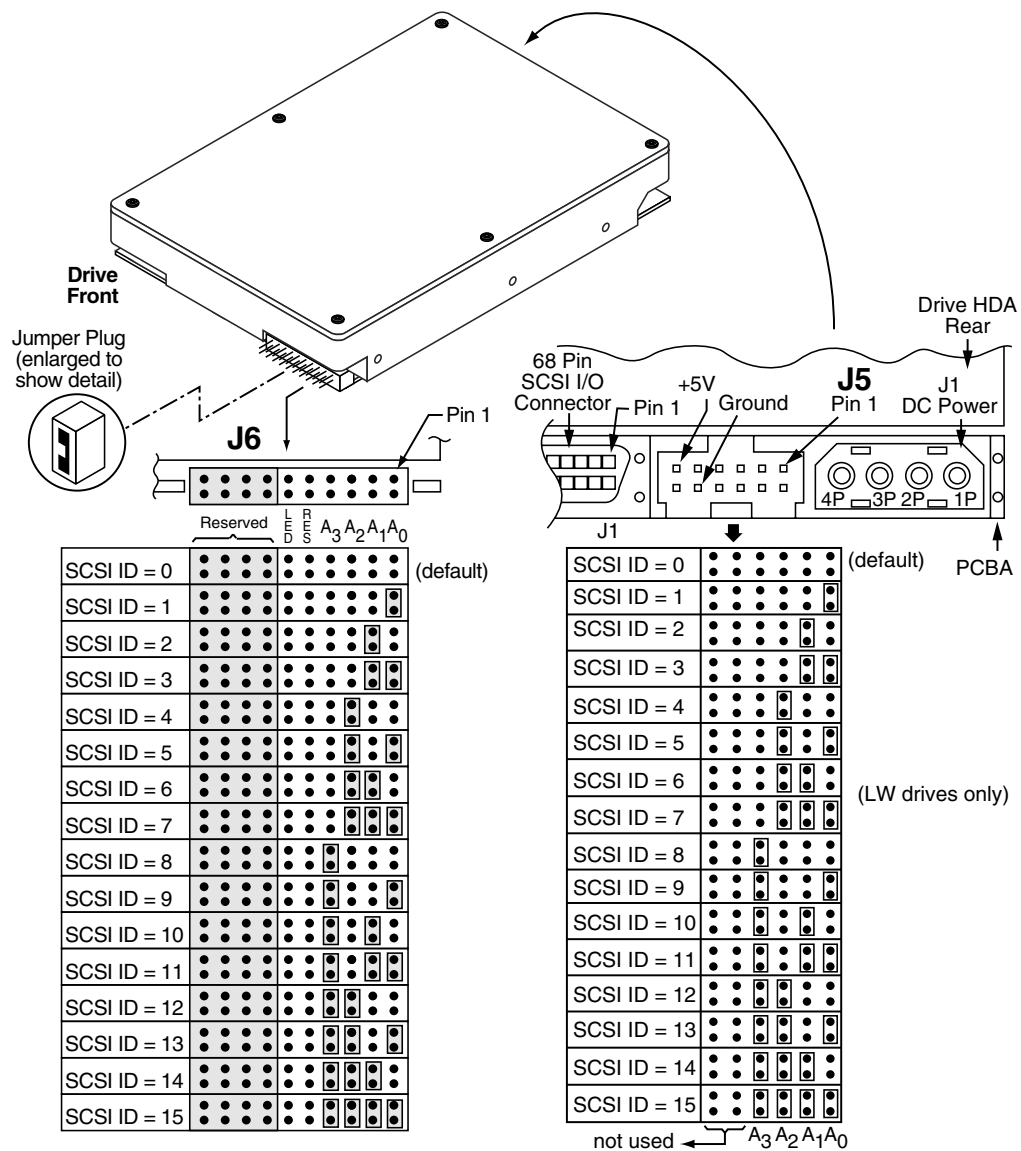

Figure 8-38 Setting the SCSI ID (ST318418N)
- Determine which SCSI IDs are already being used in the system and then assign this disc drive a SCSI ID that isn't already being used. Use the J6 connector located on the front of the drive to set the SCSI ID (see Figure 8-38).